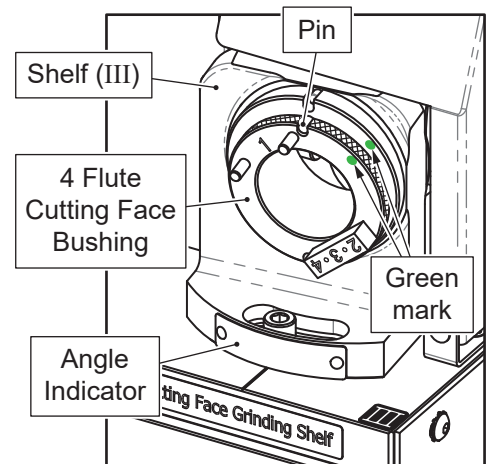

Fig. 14-3
3. Cutting Face Grinding Shelf (III) (Fig. 14-3)
- ① Adjust the Shelf (III) to 12° .
- ② Choose 4 Flute Cutting Face Bushing (12 deg).
- ① Adjust the Shelf (III) to 7° .
- ② Choose 4 Flute Cutting Face Bushing (7 deg).